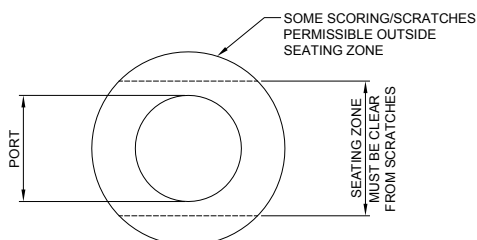

Fig. 5
- 7.13 The ball must have no scratches or scoring, other than minor signs of rubbing, around its seating periphery (fig. 5). If the ball does not pass inspection it should be replaced.